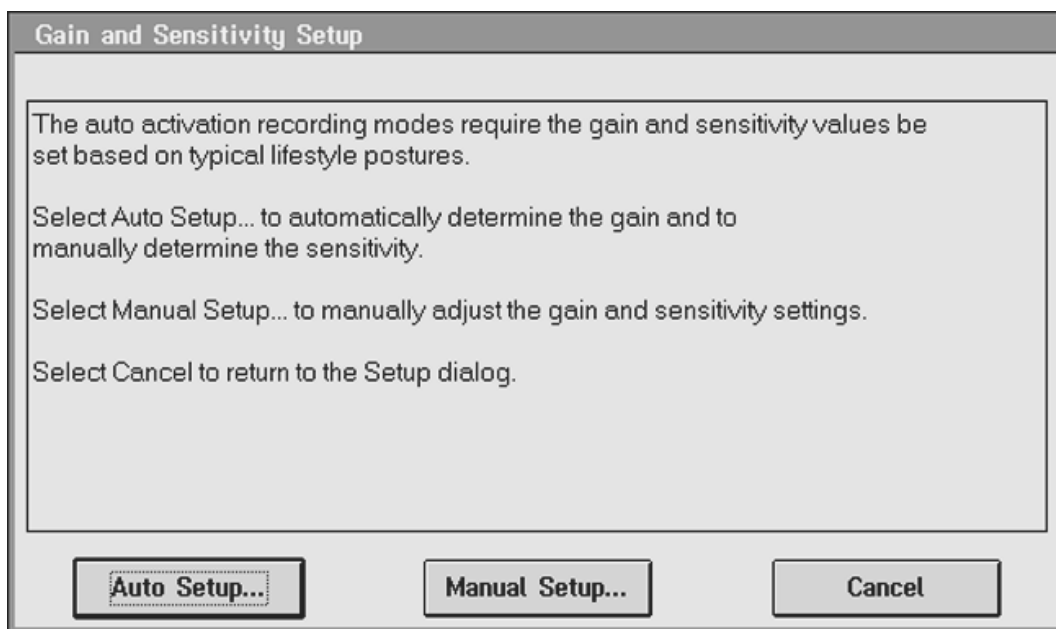
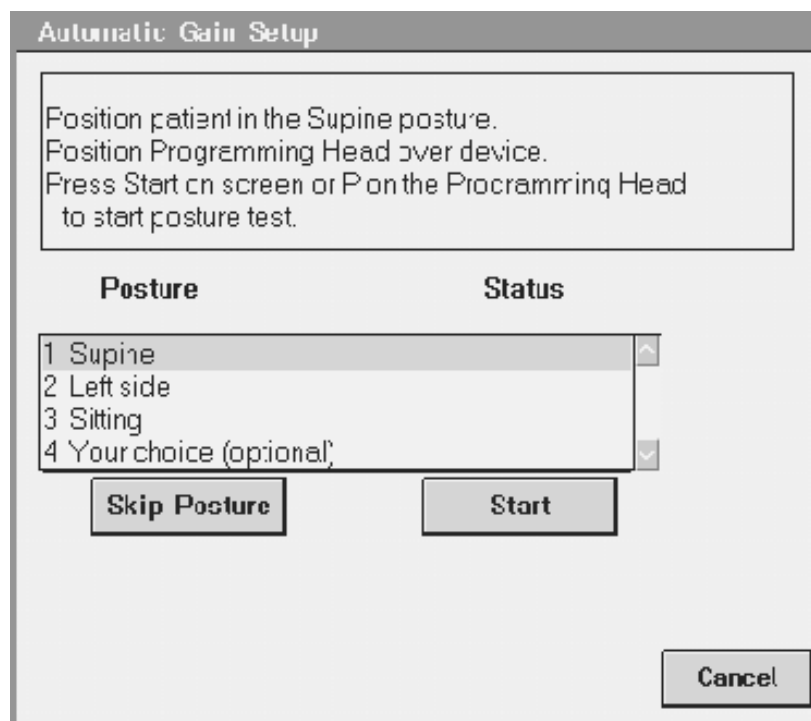

Figure 5. *Gain and Sensitivity Setup Screen*
Figure 6. *Automatic Gain Setup*
This step defines the procedure for establishing the gain and sensitivity settings. From the Setup screen (Figure 3) press the **[Gain Setup...]** button to display the Gain and Sensitivity Setup screen (see Figure 5).
1. From the Gain and Sensitivity Setup screen (Figure 5), press **[Auto-Setup...]**. The “Automatic Gain Setup” screen is displayed (see Figure 6).